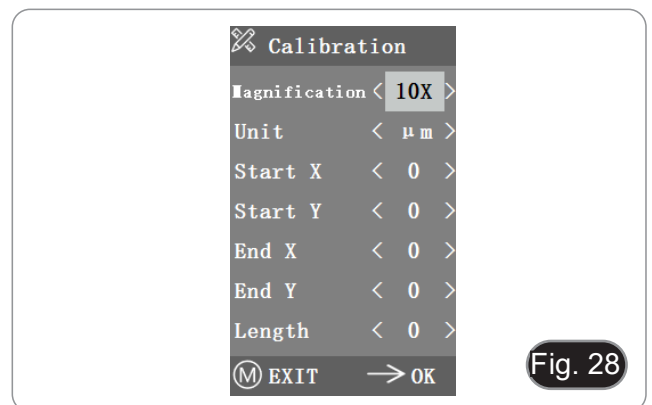

Fig. 28
3. After entering the Calibration menu, the dialogue box in Fig. 28 appears.
4. Adjust the positions of the calibration start and end points to make the calibration line coincide with the micrometer scale and try to select the maximum length that can be displayed, in order to make the most accurate measurement. (Fig. 28)